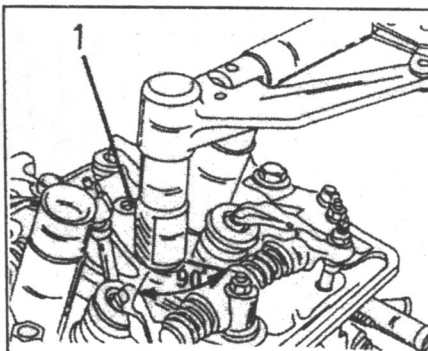

Fig. 1.44. — Angle-tightening of the cylinder head bolts when the angle is 90°. The socket (1) must be marked as shown.
- Place the socket without torque wrench over bolt No. 1, make a note of the position of the bolt, as shown in Fig. 1.44 and tighten the bolt exactly by one quarter of a turn. This is the socket travel indicated in the illustration by 90°. The easiest way to do this, is to apply the socket and tommy bar parallel to the cylinder head and then tighten the bolt until the tommy bar is parallel to the small end of the head.